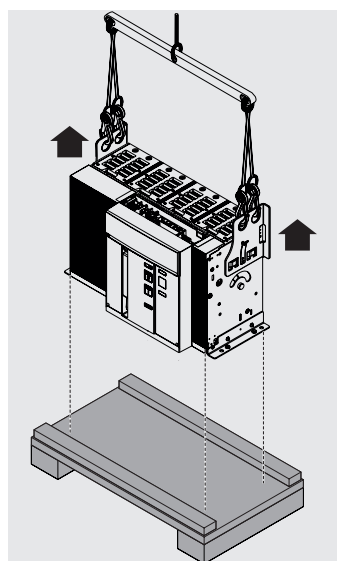
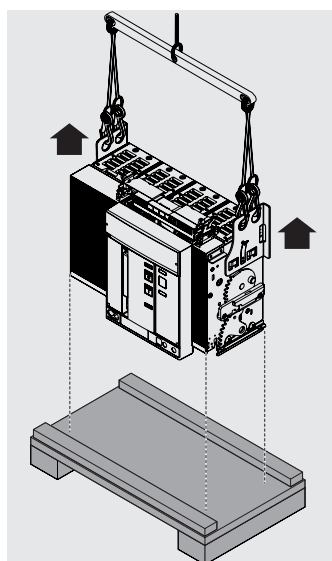

Figure 14
Figure 15
1. Raise the circuit-breaker from the base of the packaging with the aid of the lifting plates supplied with the circuit-breaker. See Figure 14 and Figure 15.